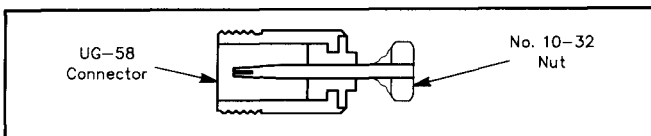

Fig 14—Input/output coupling probes.
15. Parts No. 15 are the input/output capacitive coupling probes. These can be made from UG-58A type-N connectors, with the mounting flange removed. This arrangement does not give much adjustment range, due to the short body length (Fig 14). A larger probe could be made by extending the UG-58 connector with a short length of  $\frac{1}{2}$ -in. water pipe and  $\frac{1}{4}$ -in. rod.